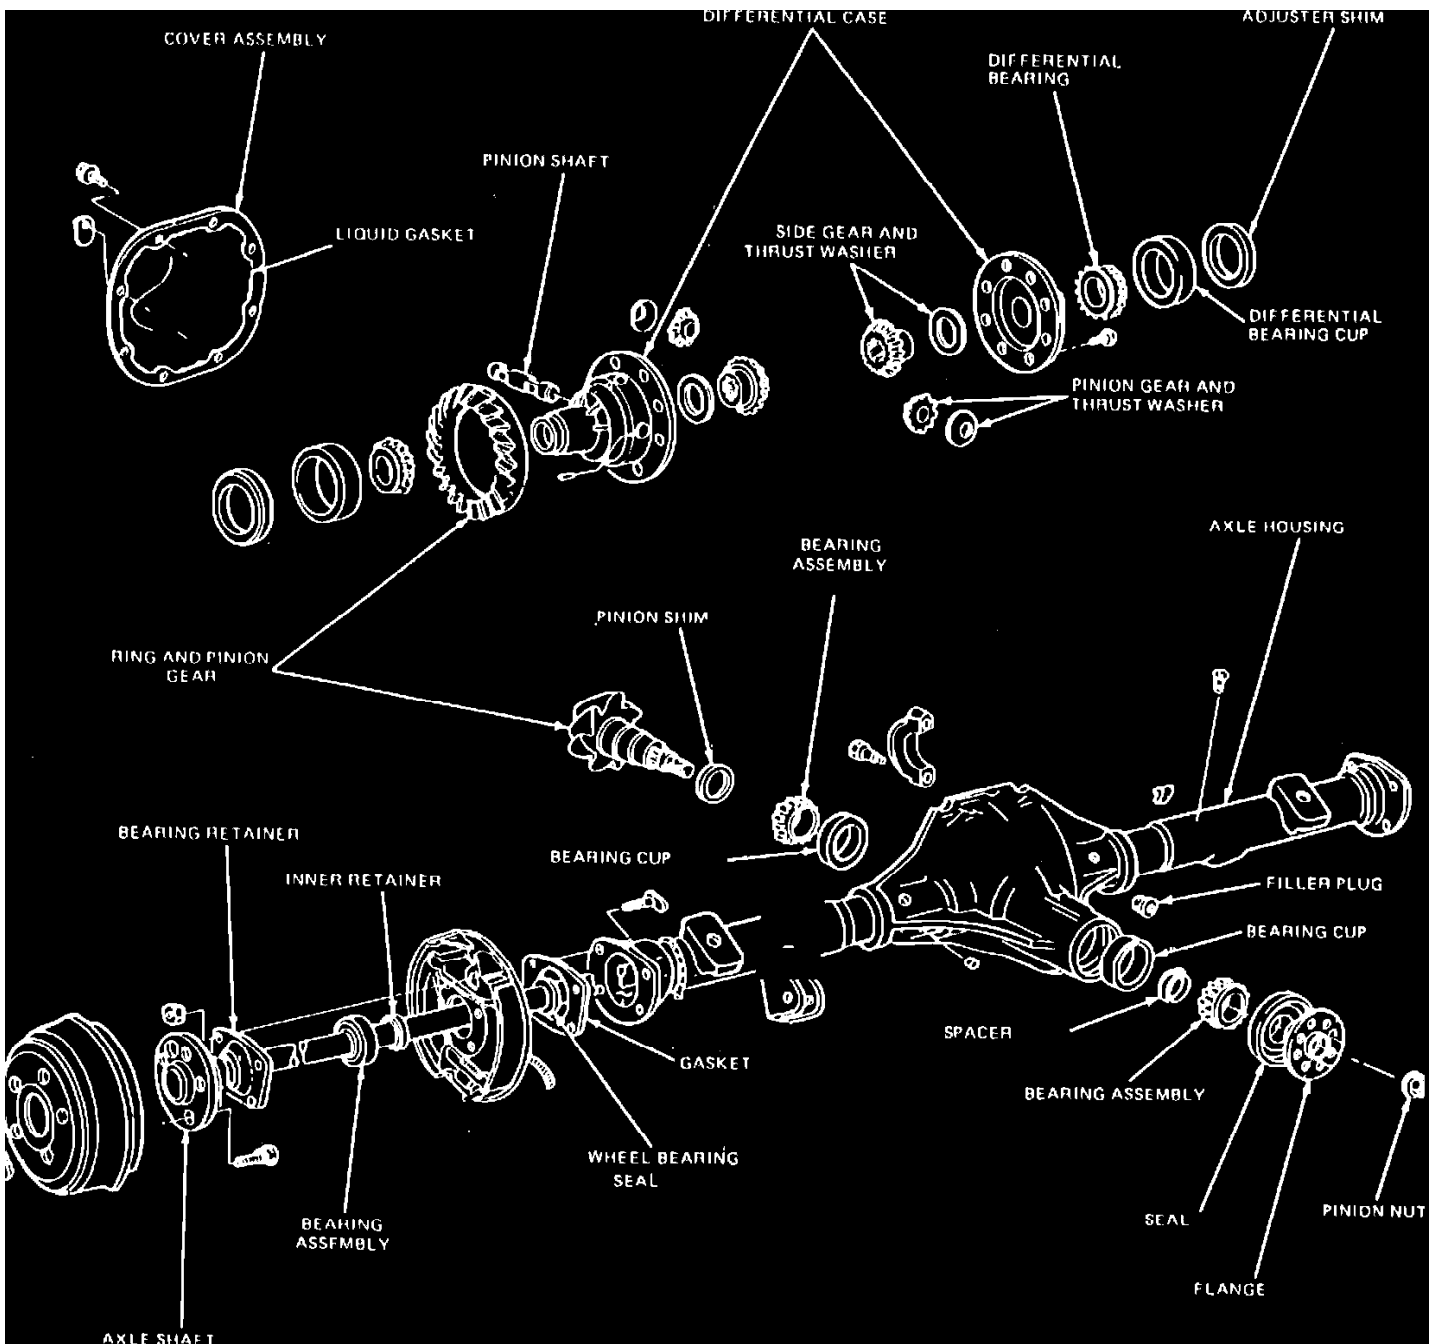

Fig. 1 Disassembled view of Ford 6 3/4 inch ring gear axle
1. Remove axle cover, **Figs. 1 through 4**, then wipe lubricant from internal working parts and visually inspect parts for wear or damage.